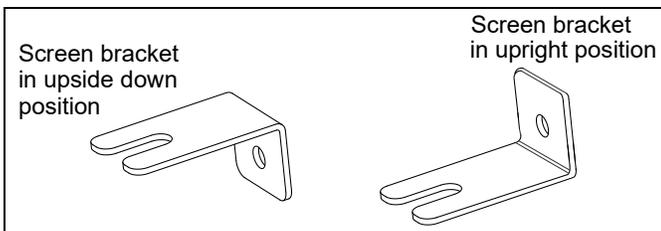

Figure 25
**NOTE:** The screen brackets (EE) used along the top of the screen **MUST** be installed in the upright position. (See Figure 25)